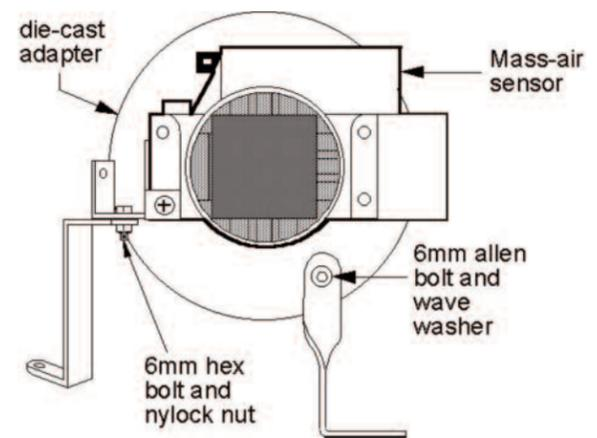

fig. 2
- 10) Install the twisted "L" bracket onto the adapter with the hardware provided. Do not tighten at this time. (see fig. 2)
- 11) Install the "Z" bracket on the small angle bracket that is connected at the back of the mass-air sensor. Do not tighten at this time. (see fig. 2)